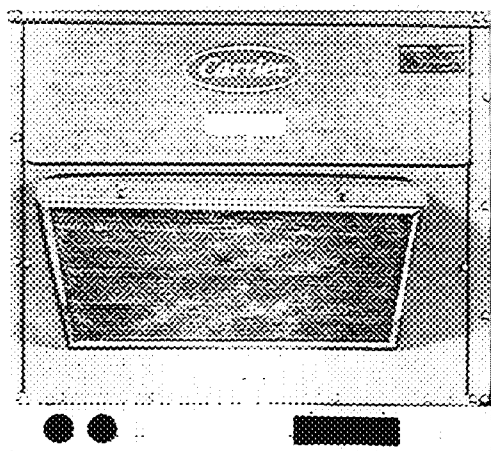

Fig. 28 — Filter Installed on Outdoor-Air Hood
9. Slide outdoor-air inlet screen into screen track on hood side plate. While holding screen in place, fasten screen retainer to hood using screws provided. See Fig. 28.